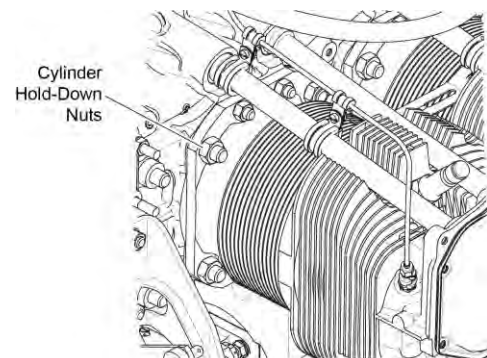

Figure 6
- O. Remove the cylinder base hold-down nuts (Figure 6).